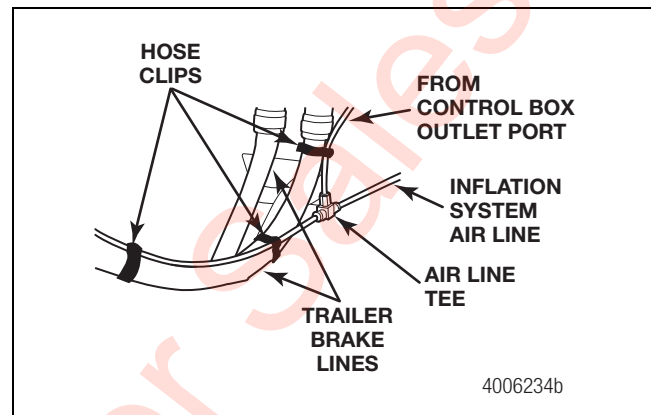

Figure 2.64
2. Route an air line from the control box outlet port to the air line tee. Suspend the tee AWAY from the trailer brake lines to protect these lines from damage. Figure 2.64. Hand-tighten the air line fittings, then use a 9/16-inch wrench to tighten them approximately one additional turn to obtain an airtight seal.